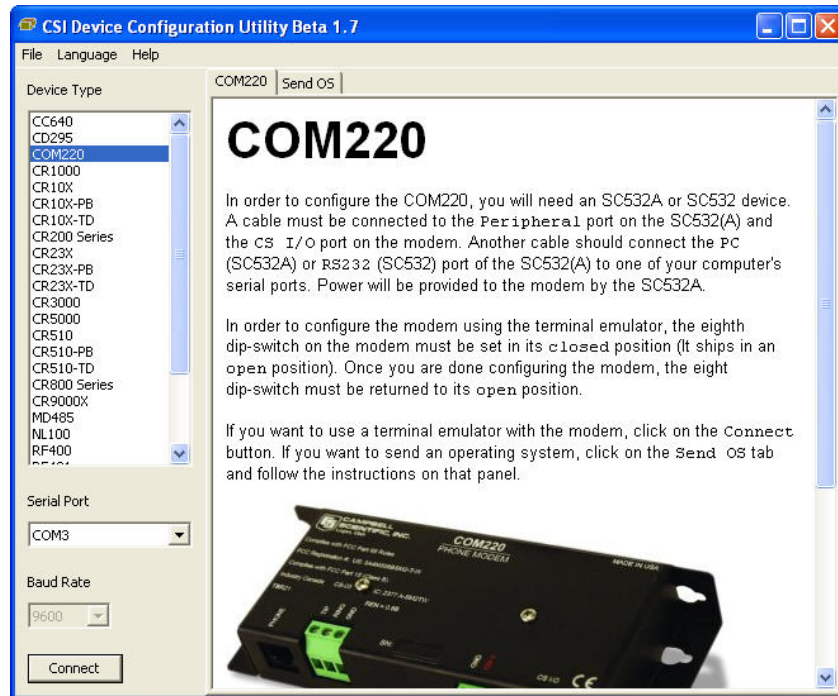

FIGURE A-2. Device Configuration screen
- 4) Select COM220 from the Device Configuration Utility menu (FIGURE A-2).